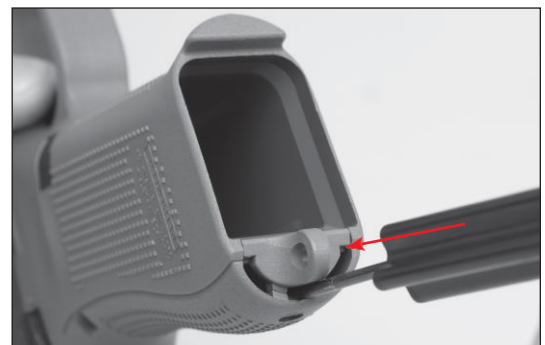

Fig. 129
- Place the GLOCK Lanyard Clip in the correct position and orientation. (Fig. 129) It may require some force to mount the GLOCK Lanyard Clip into the frame.